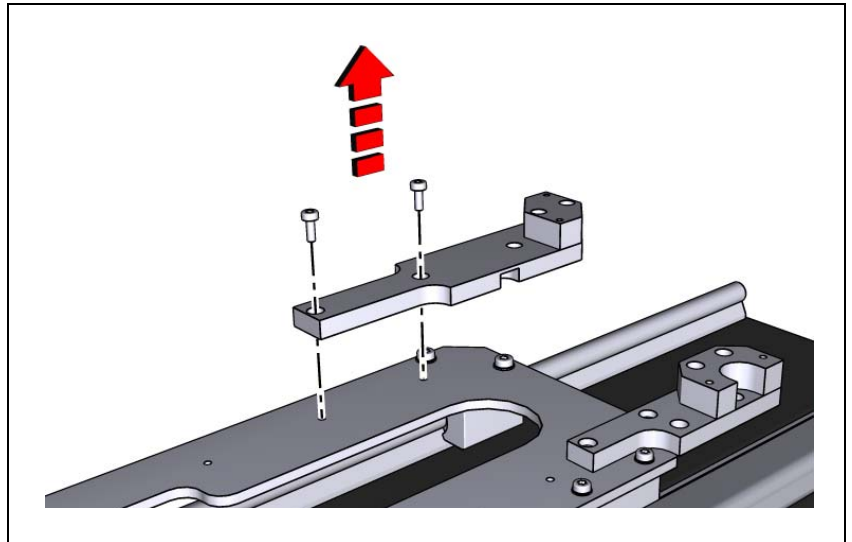

Figure 13-31. Remove left table top support.
2. Remove the left table top support (see Figure 13-31).